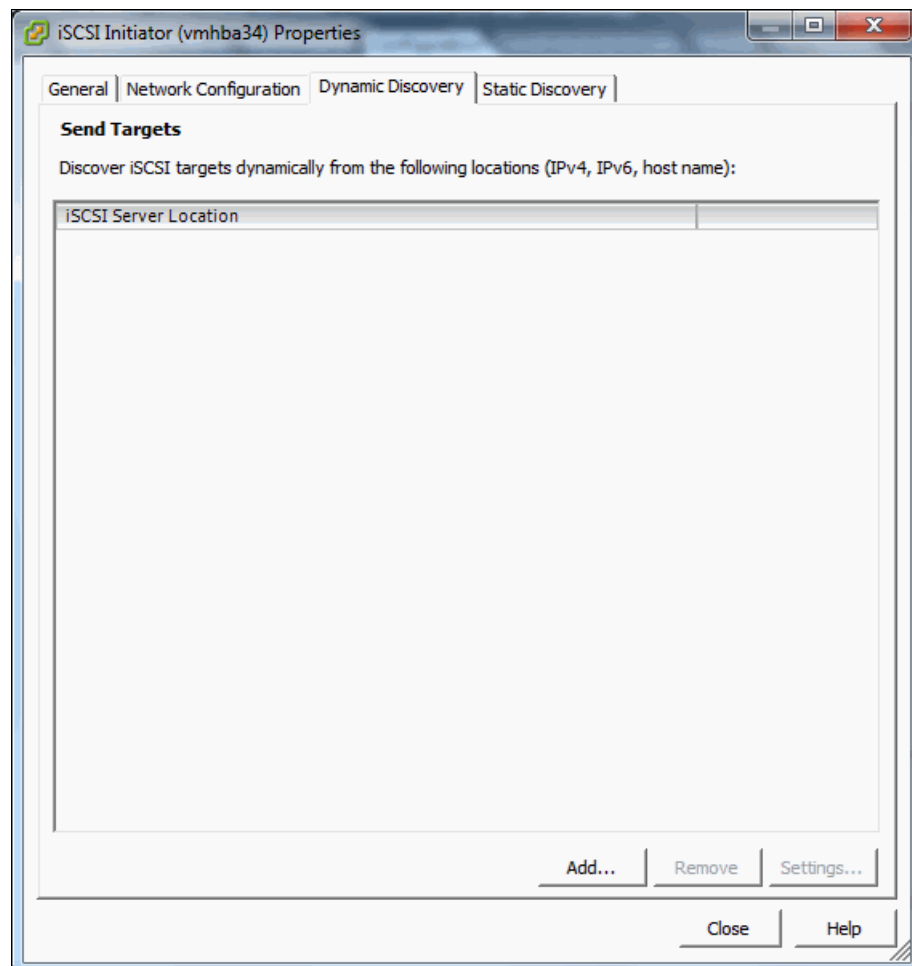

Figure 5-58 Discover iSCSI targets dynamically from the iSCSI Initiator
2. Right-click the iSCSI Software Adapter and click **Properties**. The iSCSI initiator properties window opens. Go to **Dynamic Discovery** and click **Add**, as shown in Figure 5-58.